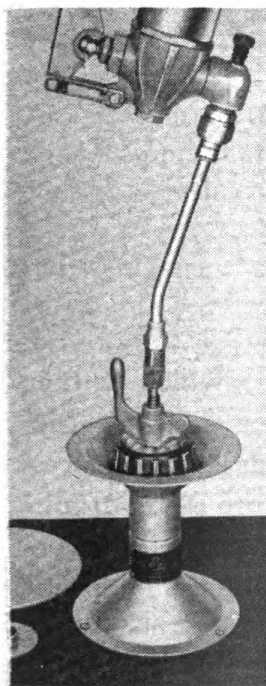

Figure 93
The bearing is now ready for lubrication. See Figure 93.
(2) Center large roller bearings, wide end down, on base plate. (Place Tyson Cageless Roller Bearings small end down.)
(3) Tighten clamp until bearing seals in lubricator. The bearing is now ready for lubrication. See Figure 93.
The lubrication of all bearings is done in same manner. The use of Model 6220 Lever Gun is recommended (See Figure 93). **USE ONLY WHEEL BEARING LUBRICANTS OF THE BEST QUALITY AND THE PROPER GRADE** recommended by the manufacturer.